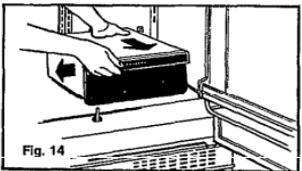

Fig. 14
4. Pull remaining crisper and crisper cover forward to disengage from pins on rear wall of cabinet, move crisper and crisper cover sideways until clear of door, and pull them out (Fig. 14).